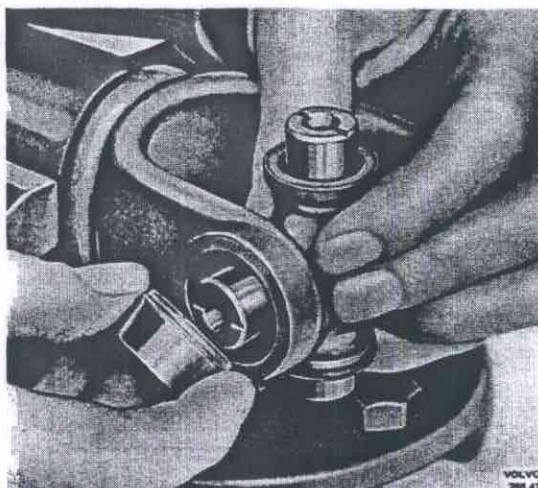

Fig. 45-9. Fitting the bearing
2. Place the spider in the flange, see Fig. 45-9, and fit the needle bearing. Make sure that the rollers in the bearing are located correctly. Press in the bearing and fit the circlip.